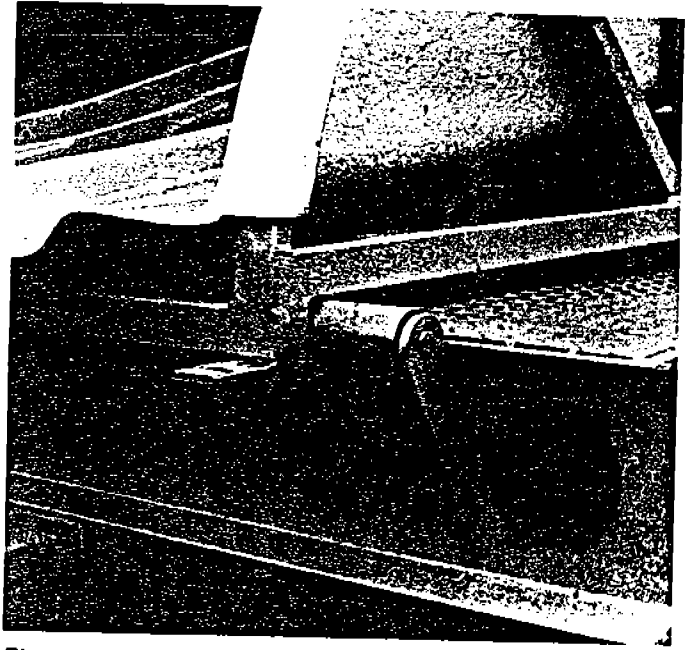

Fig. 30
- e. Pull the end of the lower slide frame onto the rollers on the rear of the trailer. (Fig. 30)